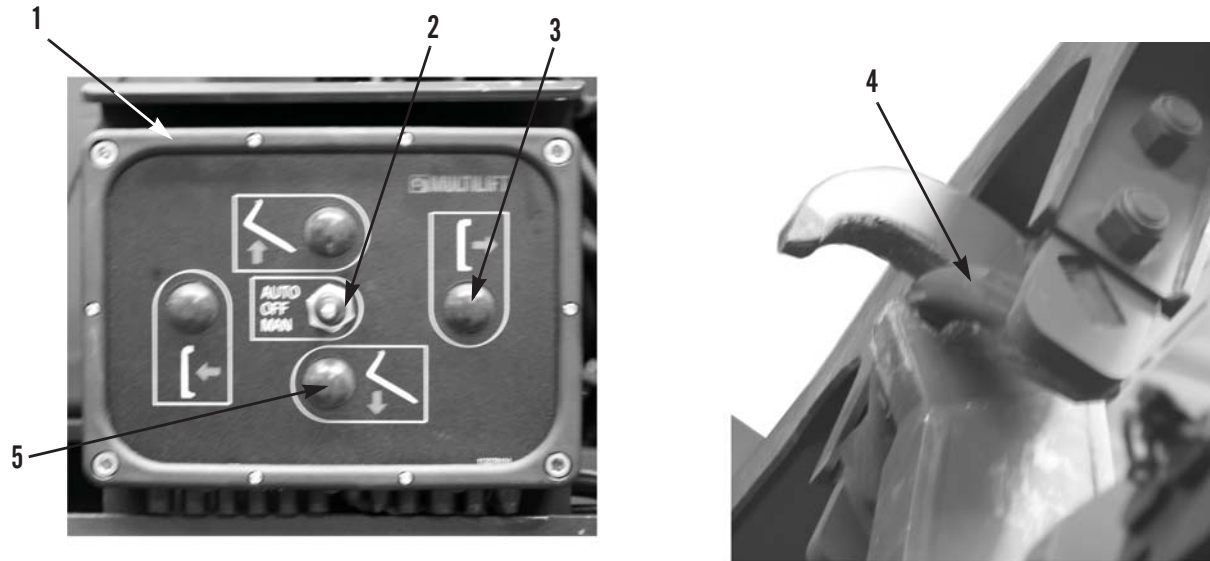

Figure 6. Set Position Three.
10. At stowage control panel (Figure 6, Item 1), set toggle switch (Figure 6, Item 2) to OFF position.
11. Simultaneously press and hold UNSTOW (Figure 6, Item 3) and HOOK DOWN (Figure 6, Item 5) buttons for three seconds to store third position (Figure 6, Item 4). LED in Space 4000 ST box will display A3.
12. Set toggle switch (Figure 6, Item 2) to MAN position.